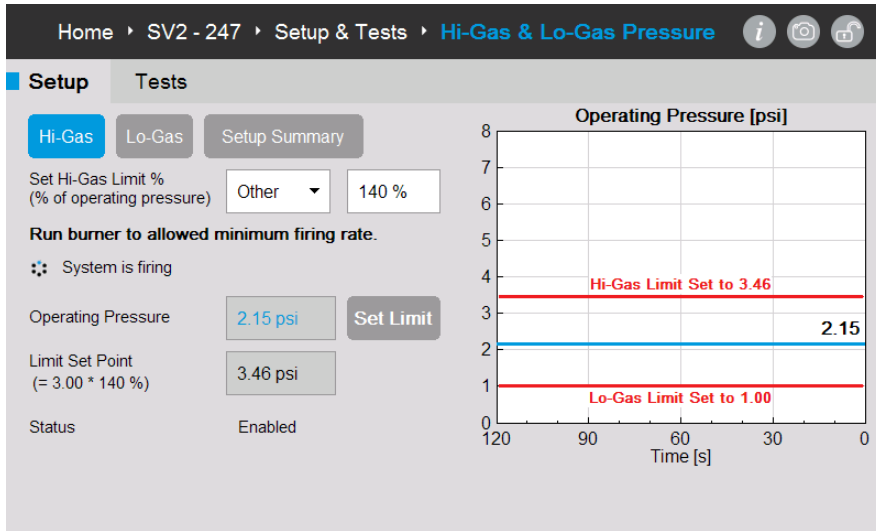

Fig. 142: Hi-Gas & Lo-Gas Pressure setup. Hi-Gas & Lo-Gas Pressure setup.
- b. Pressure Module Lo-Gas and Hi-Gas limit settings. Refer to Fig. 142.